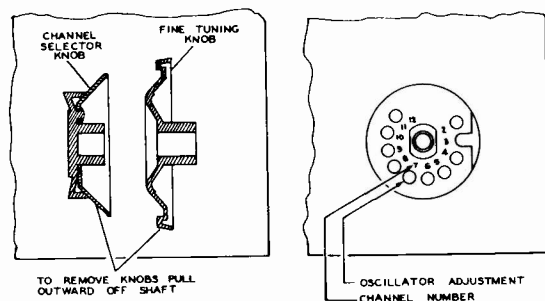

Figure 5—KRK22D R-F Oscillator Adjustments
**KRK22D, OR KRK30 VHF R-F OSCILLATOR ADJUSTMENTS.**—Tune in all available stations to see if the receiver r-f oscillator is adjusted to the proper frequency on all channels. The adjustments for channels 2 through 12 are available from the front of the cabinet by removing the station selector escutcheon as shown in Figure 5 or 6. Adjustment for channel 13 is on top of the chassis. The oscillator for the UHF tuner section of the KRK30 tuner should be adjusted by the method outlined on page 14 under Alignment Procedure.